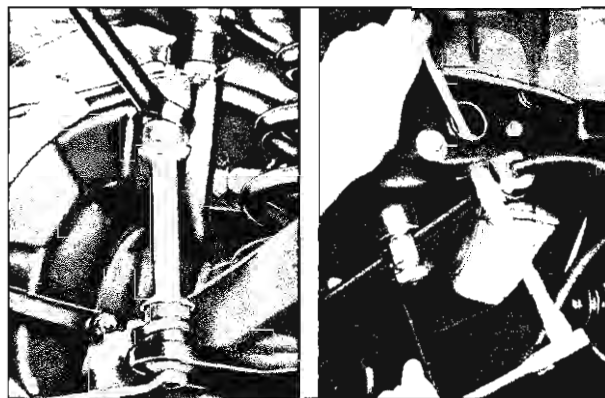

Fig. 12—Removing or Installing Front Stabilizer
2. Remove stabilizer link from lower control arm (both sides) by removing lower attaching nut, spacer and grommet (fig. 12).
4. Reaching through hole in frame (fig. 12), hold bolt heads and remove two nuts and washers attaching the stabilizer support (both sides).
1. Attach the stabilizer and supports to the frame (fig. 12).
2. Assemble the lower ends of the stabilizer links to the lower control arm (fig. 12). Assemble the upper ends of the stabilizer links to the stabilizer bar.